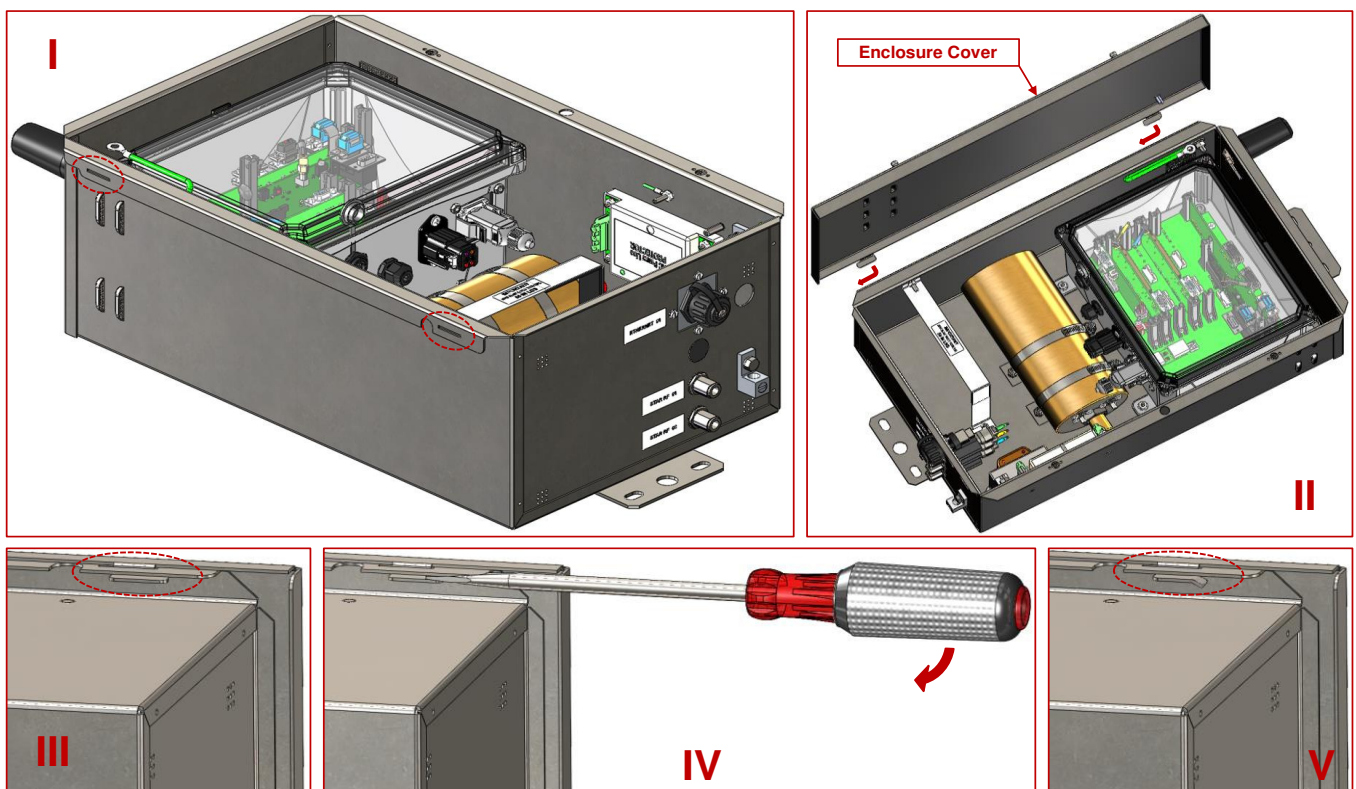

Figure 5: Install Enclosure Cover
4.2.8 On the top left edge of the enclosure are (2) slots for mounting the cover; see **Figure 5-I**.
Holding the cover as shown in **Figure 5-II**, place both tabs, on the covers edge, into the slots of the enclosure. With the tabs in both slots, the cover should slide about ¼” toward the bottom of the enclosure.
Close the enclosure cover and observe that the tab and slot mate up as shown in **Figure 5-III**.
Place the blade of a large screwdriver behind one of the cover tabs as shown in **Figure 5-IV** and bend the tab to a 20-30° angle as shown in **Figure 5-V**.